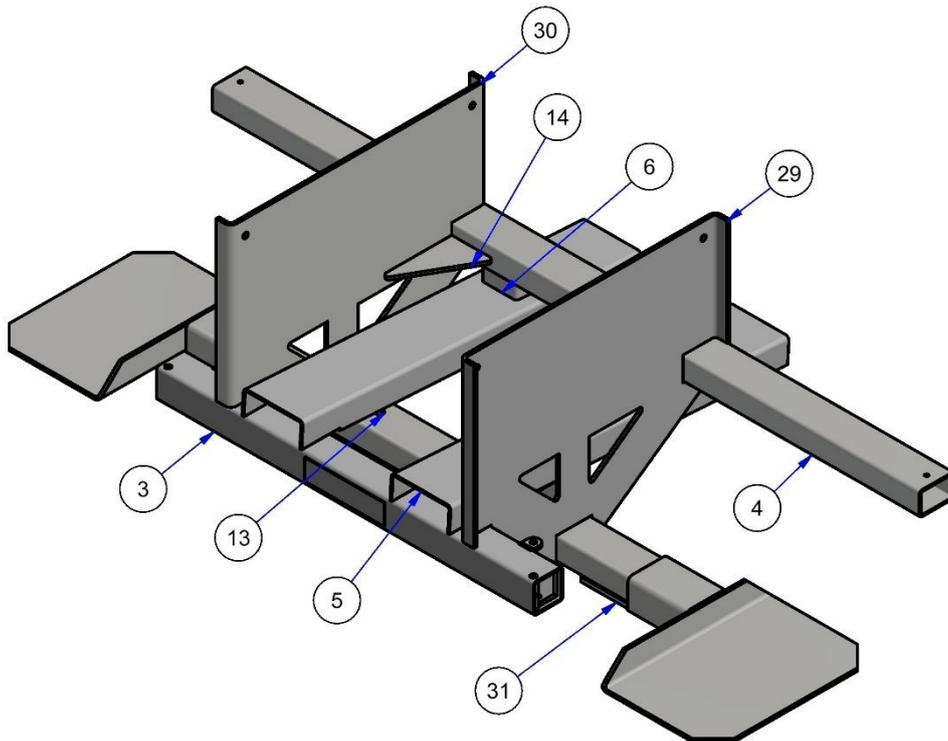

Figure 10 (Completed Frame Assembly Diagram)
- The weldment shown in Figures 10 to 13 forms the structural frame to which all ancillaries will attach